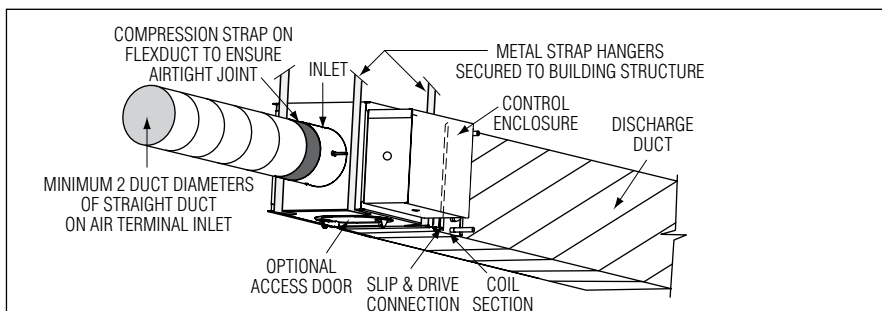
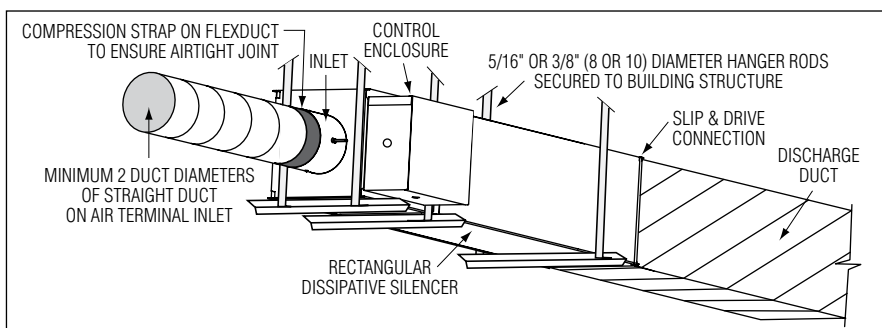
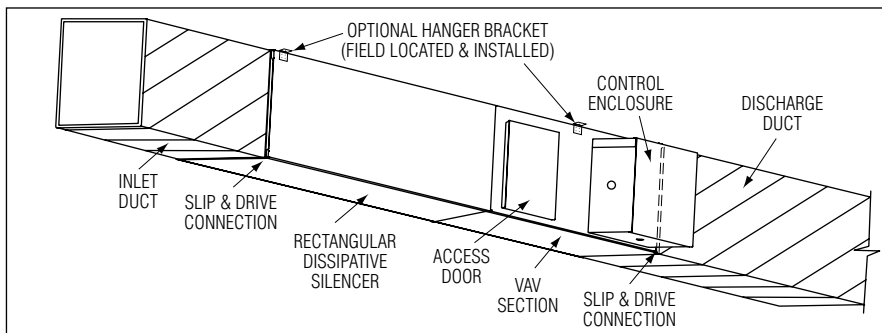

Figure 1: Support Using Hanger Straps (Shown: Model D30RW - Single Duct VAV Terminal Unit with Hot Water Heat).
Figure 2: Support Using Unistrut and Rods (Shown: Model 3001Q - Single Duct Terminal Unit with Dissipative Silencer).
Figure 4: Support Using Optional Supplied Hanger Brackets (Shown: Model D30HQX - Single Duct VAV Exhaust Terminal Unit with Dissipative Silencer).
We recommend that each terminal unit be independently supported, especially when accessory modules, such as coils, attenuators, silencers or multiple outlets are present. Hanger straps may be used and screwed directly into the sides or bottom of the unit casing (see Fig. 1). Alternately, a carriage made of unistrut may be used, sometimes this is known as a trapeze setup. Support the VAV and any accessories separately (Fig. 2). When requested, unit is supplied with field mounted hanger brackets for use with hanger rod up to 3/8" (9.5) dia. Hanger brackets should be screwed into the top of the unit casing (see Fig. 3 & 4). Use the support method prescribed for the rectangular duct in the job specifications.
Slip each inlet duct over the inlet collar of the terminal. Fasten and seal the connection as described in the job specification. The diameter of the inlet duct for round inlets (unit size 4 through 10) must be equal to the listed size of the terminal. The inlet collar of the terminal is made 1/8" (3) smaller than listed size in order to fit inside the duct (see figure 1). Unit size 12 through 16 utilize flat oval inlet collars and unit size 24 x 16 has a rectangular inlet collar. The flat oval inlets are undersized for flexible duct connection. For hard inlet duct connections, refer to submittal drawing for dimensional data. On exhaust units the duct should mate to the terminal using slip and drive connections (see Fig. 4).